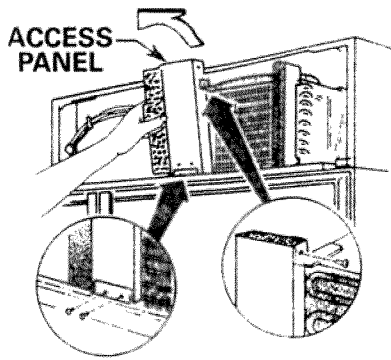

Figure 2 - Front Access Panel
4. **Remove the access panel** located next to the condenser. Save the screws for reuse but discard the panel. See Figure 2